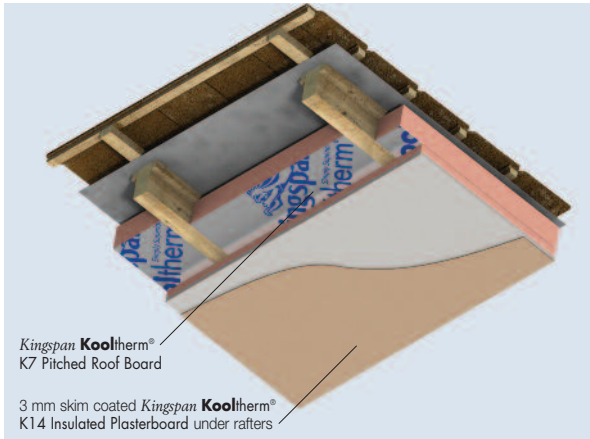

Figure 5 – Mechanically fixed to timber rafters with *Kingspan Kooltherm*® K7 Pitched Roof Board between rafters
- Sheets of *Kingspan Kooltherm*® K14 Insulated Plasterboard may be used to line ceilings (see Figure 5).